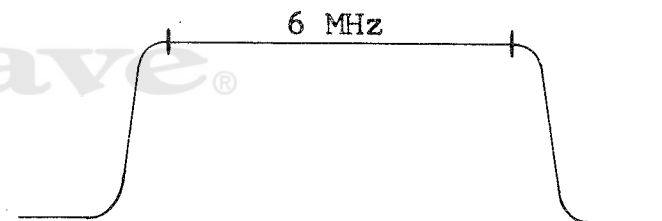

Figure 4-7. Input-Filter Response
5. Adjust C102, C103, C106, C109, C111 and C114 to give a 6-MHz bandpass similar to that shown in Figure 4-7 below.